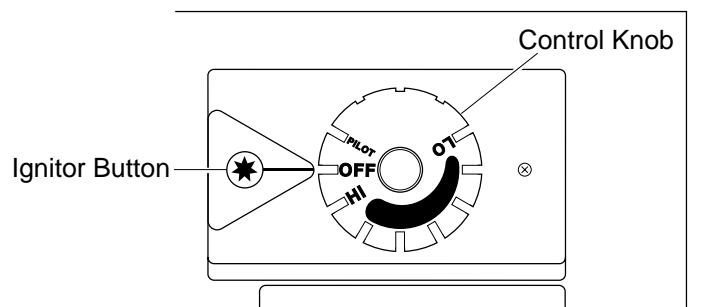

Figure 21 - Control Knob In The OFF Position
4. Wait five (5) minutes to clear out any gas. Then smell for gas, including near the floor. If you smell gas, STOP! Follow “B” in the safety information at the top of page 19. If you don’t smell gas, go to the next step.
5. Turn control knob counterclockwise  to the PILOT position. Press in control knob for five (5) seconds (see Figure 21, page 19).